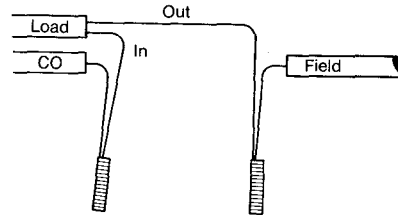

**Fig. 122—Place load pairs in module base.**
- b. For uniformity and ease in removing the load, always place load pairs in module base. See Figure 122.